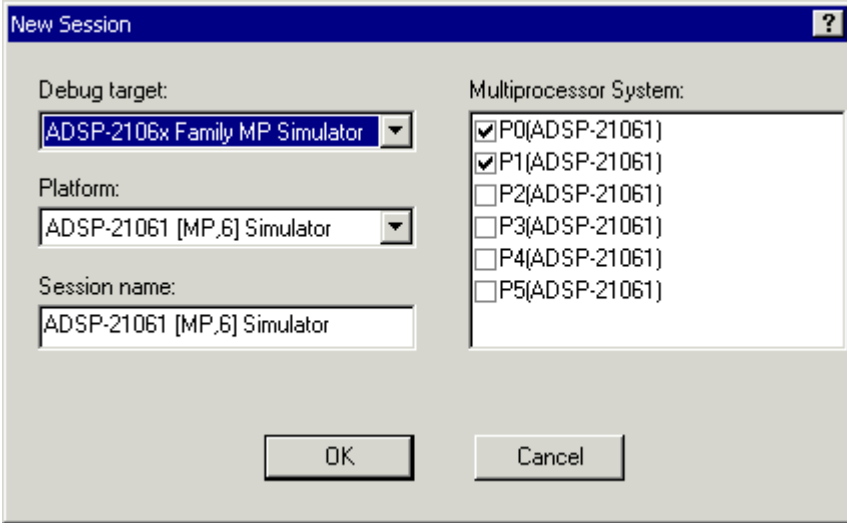

Figure 3-48. New Session Dialog Box: Setting up a Multiprocessor Simulator Session
2. From the **Session** menu, choose **New Session** to open the **New Session** dialog box, shown in Figure 3-48.
4. Under **Multiprocessor System**, select the check boxes next to processors **P0** and **P1**, as shown in Figure 3-48.